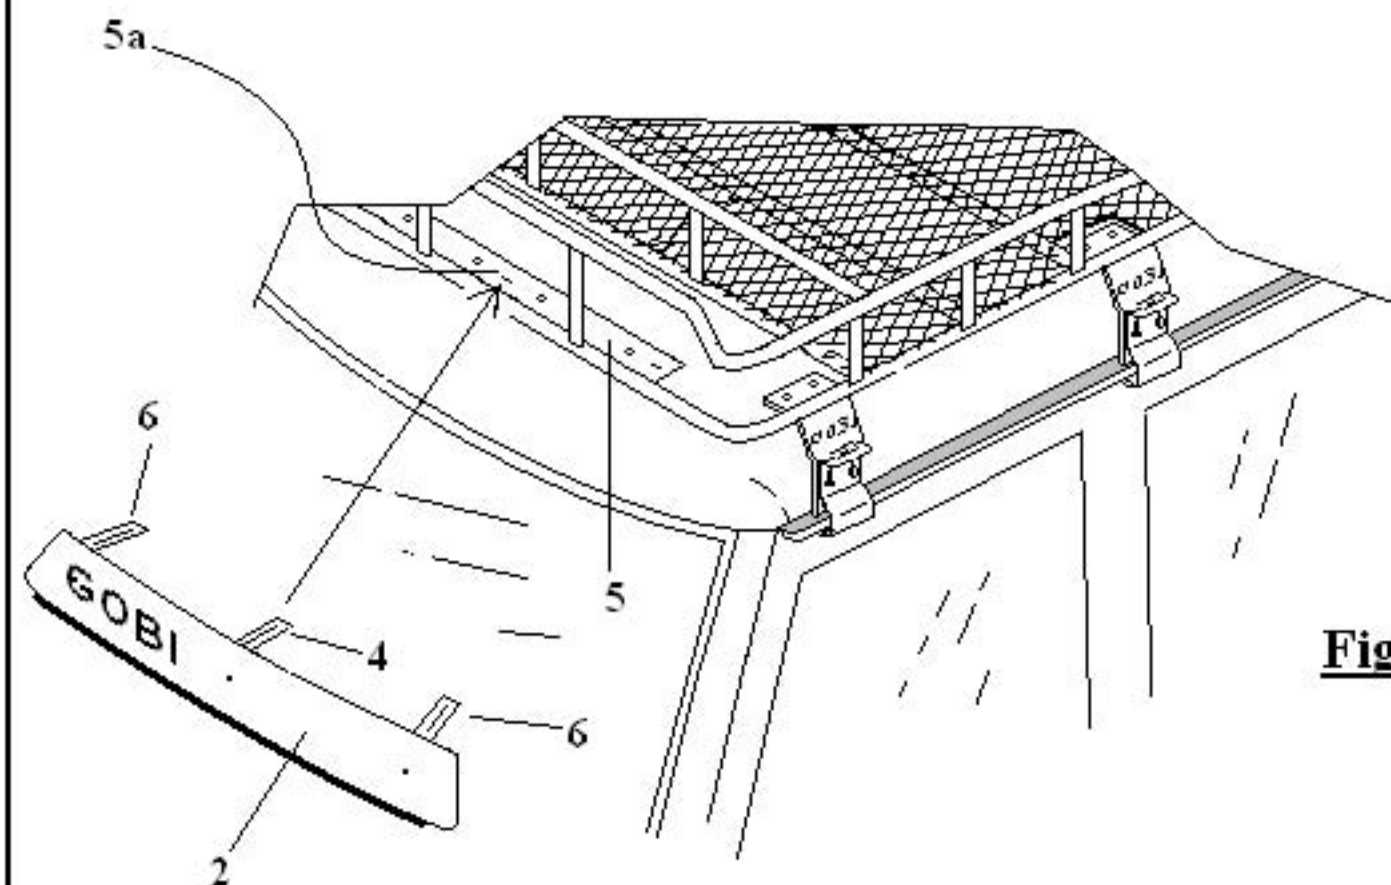

Fig. 4
- 6- Refer to page 7 #2 Fairing comes preassembled with fairing brackets #4 attached. The position of each attached fairing bracket may not be fixed at the proper height for your particular roof line. Adjustments may have to be made in order for the fairing to conform correctly to your vehicle's roof line. Begin by attaching the fairing's center bracket #4 to the middle slot #5a of the Gobi roof racks light bar #5 shown on page 7 Fig. 4. Use the 1/4" screws, flat black nylon washers and Nylock nuts located in Bag #2 of your hardware kit. Provide approximately a 2" gap between the fairing and the Gobi rack outer tube as shown on page 7 Fig. 5b. Tighten down the center nut and screw at this time. Proceed to either the passenger or drivers side and pull the fairing in the direction of the arrows on page 7 Fig. 5 letters "F" and "G" while pushing down on the fairing towards the vehicle roof top at the same time. Pull each side until the fairing either makes contact with the Gobi roof rack or comes in close proximity. Align fairing brackets #6 to the Gobi light bar fairing slots at the ends of the Gobi light bar #5 (*fairing brackets may appear to be slightly tilted against the light bar but this is normal and brackets will flatten out after tightening*) and insert the 1/4" screw and flat black nylon washer through fairing bracket #6 then through the Gobi light bar slot and secure the fairing in place with the 1/4" black nylon washer and Nylock nut. Proceed to the opposite side and continue attaching the fairing in the same manner. Be sure that the fairing throughout its length is making contact with the roof top as snug as possible. Fairing brackets may need to be adjusted either up or down and in some cases you may bend the fairing bracket to accommodate the final result. Once the fairing is in the proper position tighten all fairing bracket screws firmly. Roof rack installation is complete.